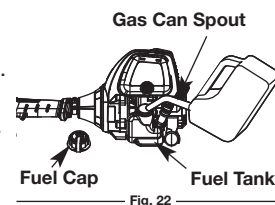

Fig. 22
1. Remove the fuel cap (Fig. 22).
2. Place the gas container's spout into the fill hole on the fuel tank (Fig. 22) and fill the tank.